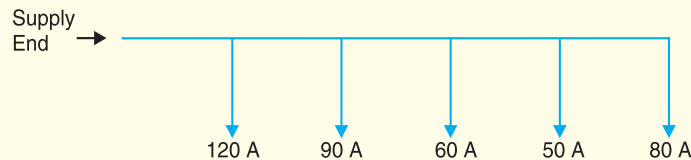

Fig. 13.10
4. A 2-wire d.c. distributor is 250 m long. It is to be loaded as shown in Fig 13.10 at 50 m intervals. If the maximum voltage drop is not to exceed 10V and the resistivity of core material is $0.7 \times 2.54 \, \mu\Omega \, \text{cm}$, determine the maximum cross-sectional area of each conductor. [1.602 cm²]